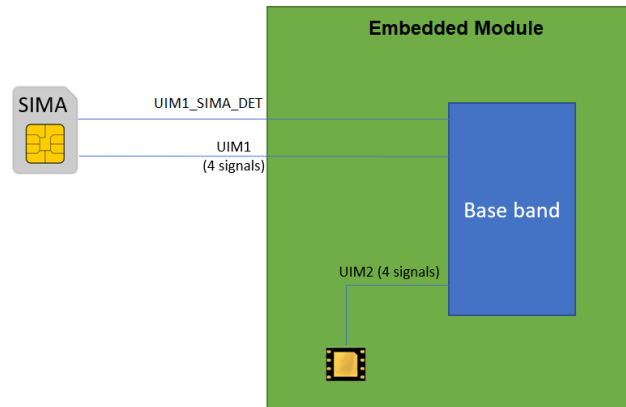
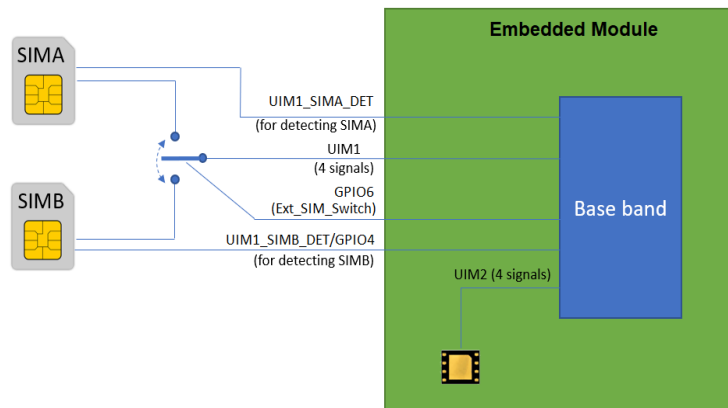

Figure 4-2: Single External SIM Configuration
Figure 4-3: Dual External SIM Configuration
- UIM1 – this interface allows control of 1.8V or 2.85V UIMs. For RC7611, RC7611-1, RC7612, RC7612-1, RC7620, RC7620-1, RC7630 and RC7630-1, it also supports single or external dual SIMs. For usage details, see Figure 4-2 and Figure 4-3.
Note: Figure 4-2 illustrates the recommended implementation of a single external SIM configuration. For a detailed UIM schematic, see Figure 5-8.
Note: Figure 4-3 illustrates the recommended implementation of a dual external SIM configuration. For a detailed external SIM schematic, see Figure 5-9.